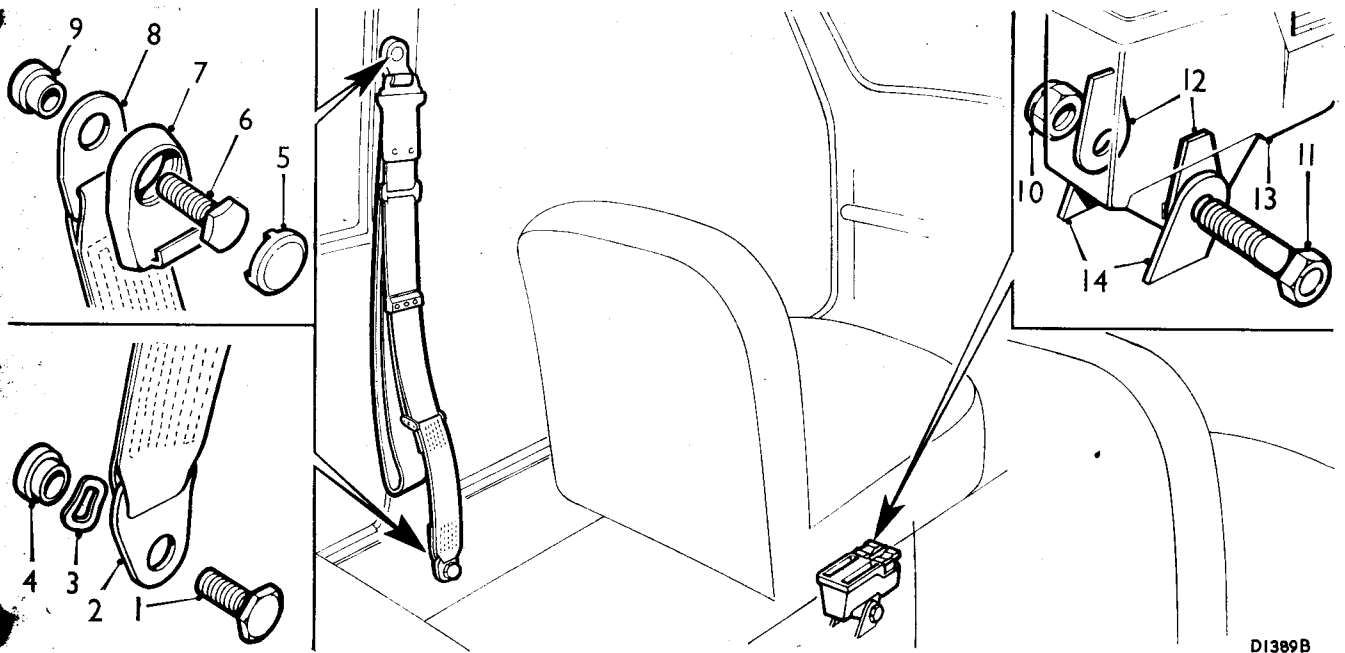

Fig. Rb.13
- (1) Remove the hexagon screw (1) retaining the belt bracket (2) to the sill mounting point; note the anti-rattle washer (3) and the shouldered distance piece (4), see Figs. Rb.13 and Rb.14.
- (2) Prise out the protective cap (5) covering the hexagon screw (6) at the pillar fixing point. Remove the screw and detach the belt bracket noting the plain washer, parking device, anti-rattle washer and shouldered distance piece on the 'Kangol' belt, and the parking device and shouldered distance piece on the 'Britax' belt, see Figs. Rb.13 and Rb.14.
- (3) Remove the nut (10) and bolt (11) retaining the central console to its mounting straps (14) and detach the console unit.
Britax. Note that a fibre washer (12) is fitted on either side of the console and is located between the central console and the mounting strap, see Fig. Rb.13.
- (5) Reverse the order of the removing procedure, noting the following:
- (b) The belt brackets must be refitted with their relevant component parts assembled in the order shown in Fig. Rb.13.